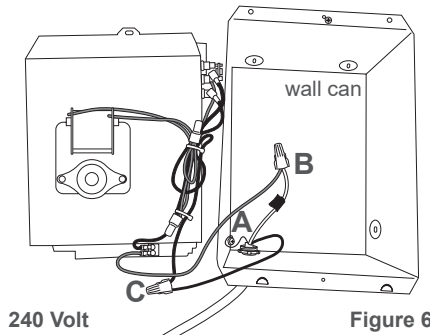

Figure 6
**A.** Connect supply ground wire to grounding screw in wall can (See Figure 6).
For 240 or 208 volts, it doesn't matter which heater wire. Both supply wires (black and white) are hot. Wrap supply (white) wire with black tape to identify it as hot (Figure 6).
**C.** Connect the remaining supply wire to the remaining heater wire with a wire connector (not included) (See Figure 6).